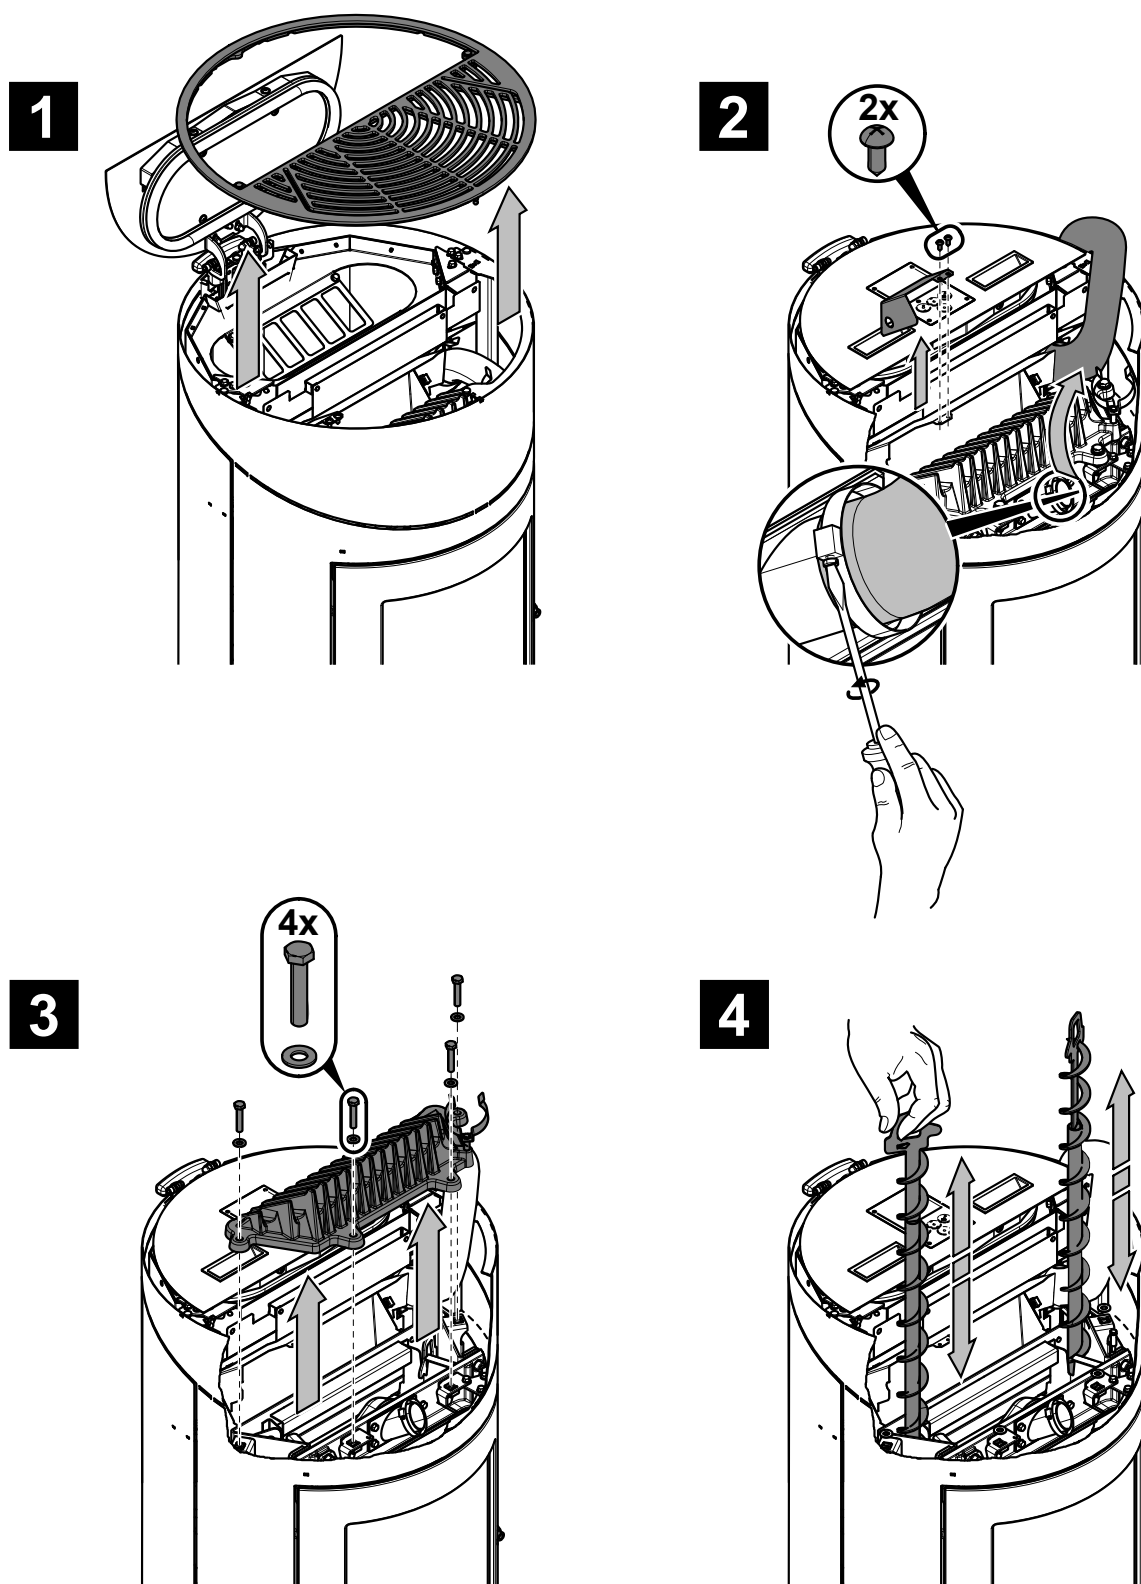

Figure 5: Shake the turbulator
- For cleaning the flue gas passes, shake the turbulator 5 times at least, in compliance with the Fig. 5, pos. 4.
- Then the protective grille (1) in the pellet tank may be removed.